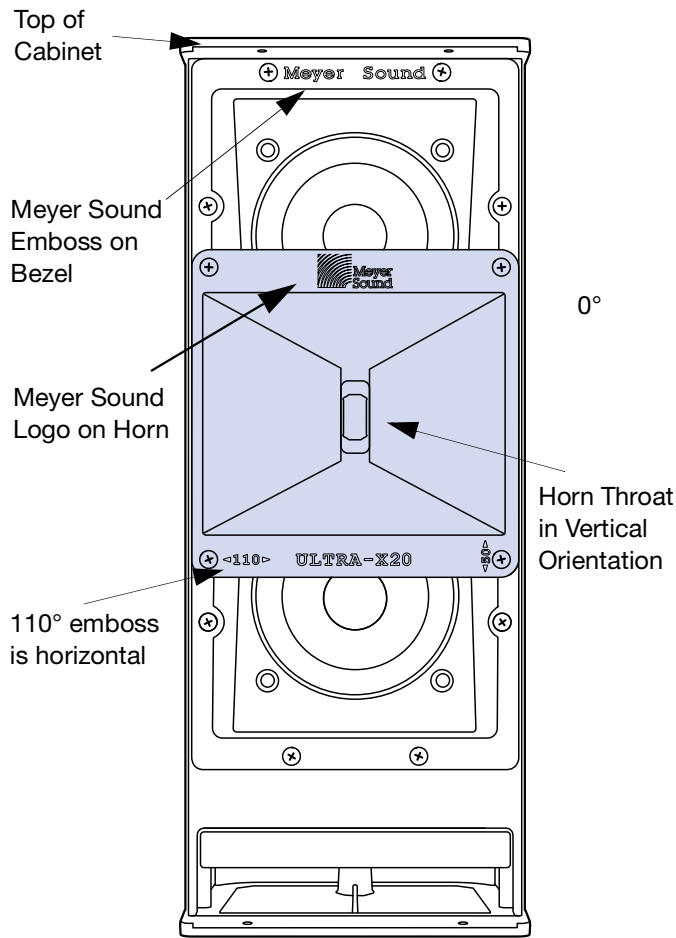

Figure 60: 110° horizontal by 50° vertical horn orientation
3. Determine the present orientation of the horn by checking the horn throat orientation when the speaker is vertical with the port at the bottom. The cabinet is vertical and the horn is in the 110° horizontal by 50° vertical orientation when the Meyer Sound Logo on the horn and on the bezel are at the top, the horn throat is in the vertical orientation, and the 110° emboss is also horizontal (Figure 60).
5. To rotate the horn from 50° x 110° to 110° x 50°, pull the horn out, rotate it **-90°**, so that the horn throat is oriented vertically, the Meyer Sound Logo on the horn is on the top, and the 110° emboss is also horizontal (Figure 60).